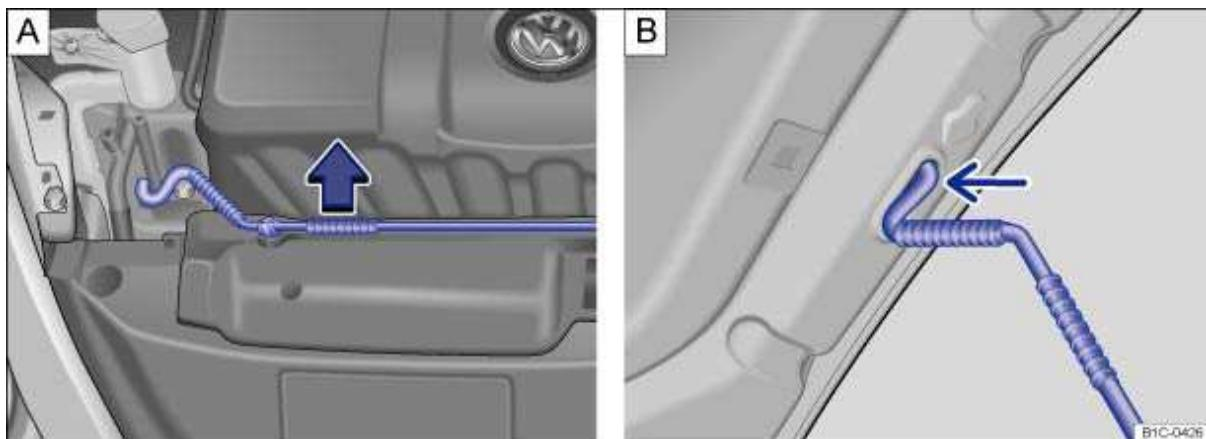

Fig. 115 A: Bracket for hood support in the engine compartment. B: Hood propped open.
- Pull the hood support out of its bracket in the direction of the arrow ⇒ fig. 115 A and insert it into the opening in the hood△(arrow).